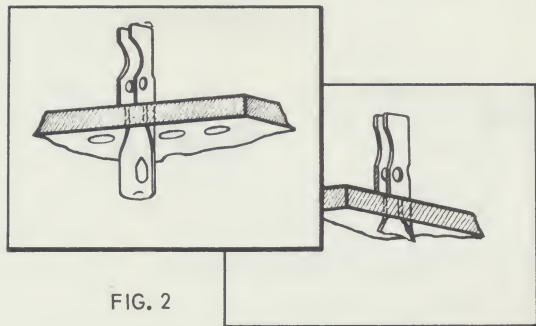

FIG. 2
3. Optional Hand Staking Possible: Although no staking is required, the terminal may be staked if desired. Fig. 2 illustrates one staking method. Here the small end of the terminal has been flared using "flats" or needle nose pliers. This prevents it from pulling out. (see Fig. 3) After flaring, the small end of the terminal may be cut with a pair of cutting pliers.